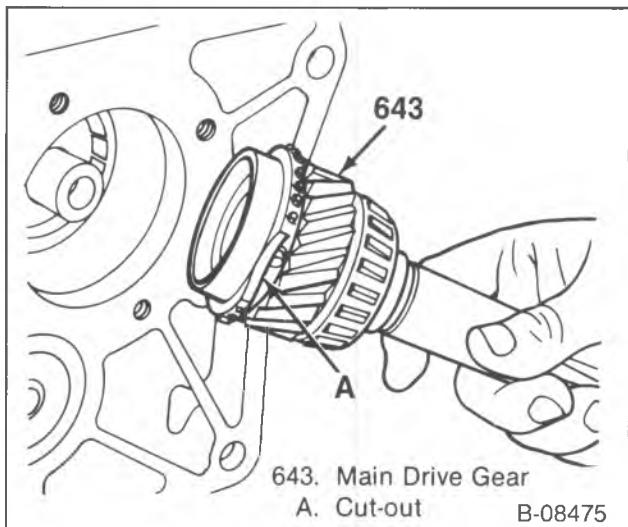

Figure 11—Main Drive Gear Cut Out
12. Main drive gear (643).
- Turn the gear so the cut-out is toward the countergear (figure 11).